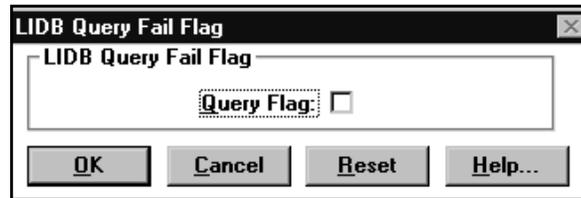

FIGURE 95. Example of LIDB Query Fail Flag dialog box
1. To block or unblock a call or to send custom AMA when a domestic call is completed, select LIDB Query Fail Flag in the configuration window. (See Figure 95.)